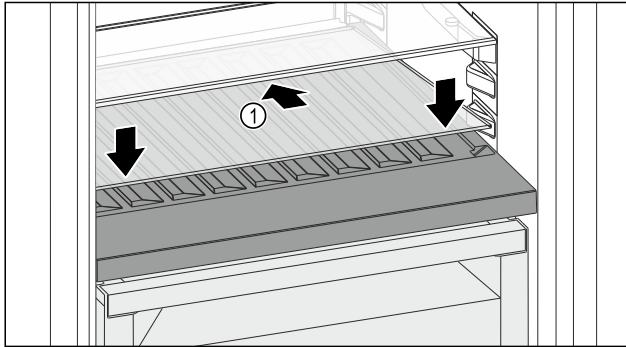

Fig. 82
- Place the glass shelf Fig. 82 (1) at an angle, sloping it downwards and backwards.
- Lower the glass shelf Fig. 82 (1) at the front.